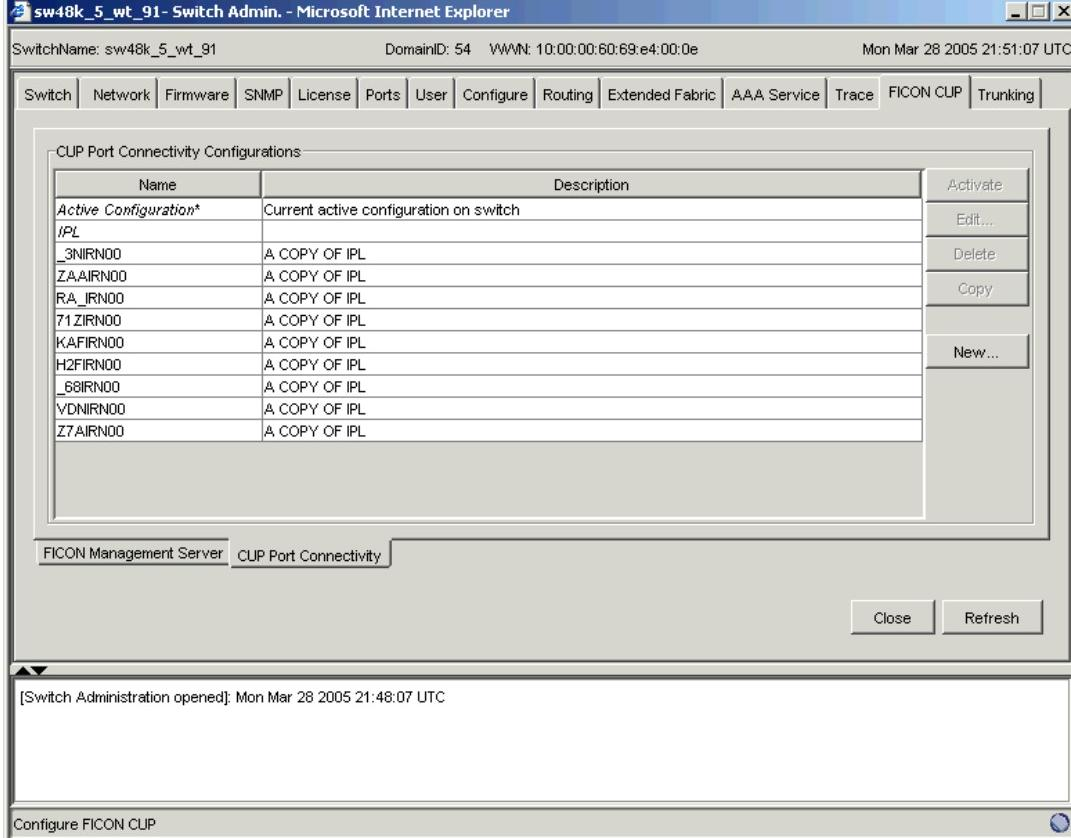

Figure 44 Configuring CUP port connectivity
In the Port Connectivity subpanel (shown in Figure 44), you can manage the configuration files and active configuration. All CUP configuration files and the active configurations are listed in a table. The active configuration is listed as **Active Configuration*** and the description in the table is **Current active configuration on switch**. The other special configuration file is the IPL. Any other files displayed are user-defined configurations and are stored on the switch.
Use the following procedure to display a list of CUP port connectivity configurations, as shown in Figure 44.
4. Click the **CUP Port Connectivity** subtab (see Figure 44).